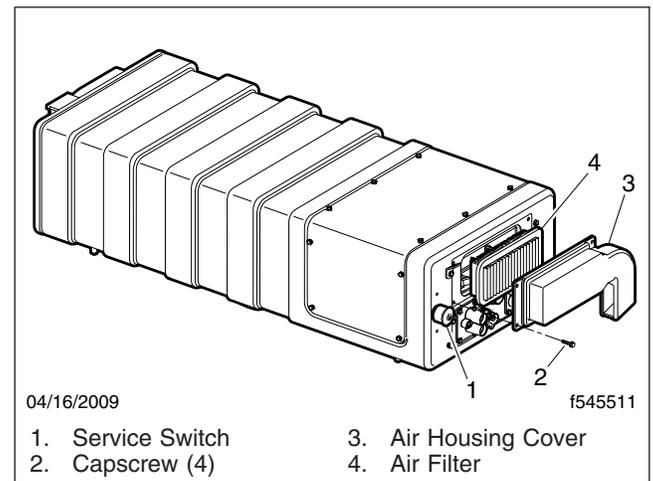

Fig. 2, PEC Components
2. Remove the four capscrews holding the PEC air filter cover. See Fig. 2.